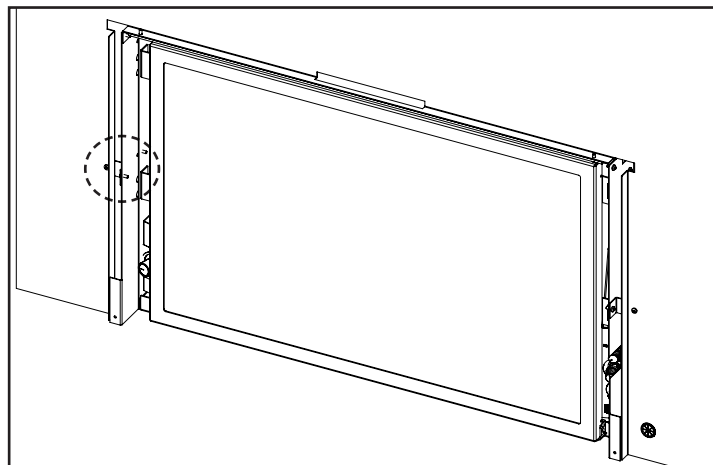

Figure 46: Trimmable Panel Installed
3. Using the remaining hardware attach the Trimmable Panel to the Panel Brackets using a T-20 Torx screwdriver (See Figure 46).